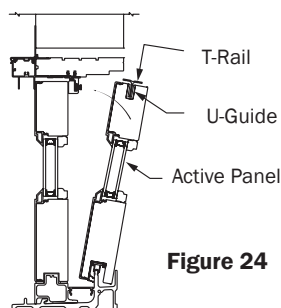

Figure 24
27. Starting with one of the operable panels, place the corresponding side's T-Rail into the U-Guide at top of panel (Fig. 24).
28. Lift the bottom of the panel with the rollers onto the roller track and tilt upright into place (Fig. 24).
29. Reattach the T-Rail to the head by replacing the #6 x 5/8" screws that you set aside. Hold onto active panel until t-rail is fastened. **Note:** The innermost holes (8) will require the 3" screws, step 30.